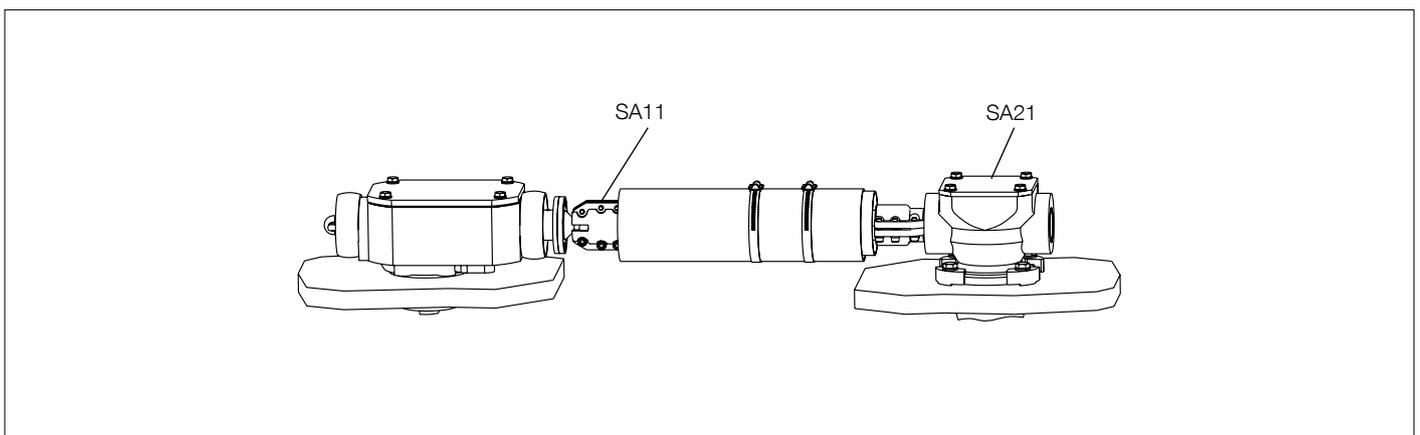

Fig. 52.
2. Connect the square shaft with the mounted coupling halves to the shaft of the bevel gear; see Fig. 52. Mount two coupling halves SA11 to the other end of the square shaft and the shaft of the other bevel gear. Push the shaft to the bottom of the fitting in the coupling halves; see Fig. 31. Tighten the screws lightly and check that the shaft can be moved approximately 2 mm in the axial direction (axial play).